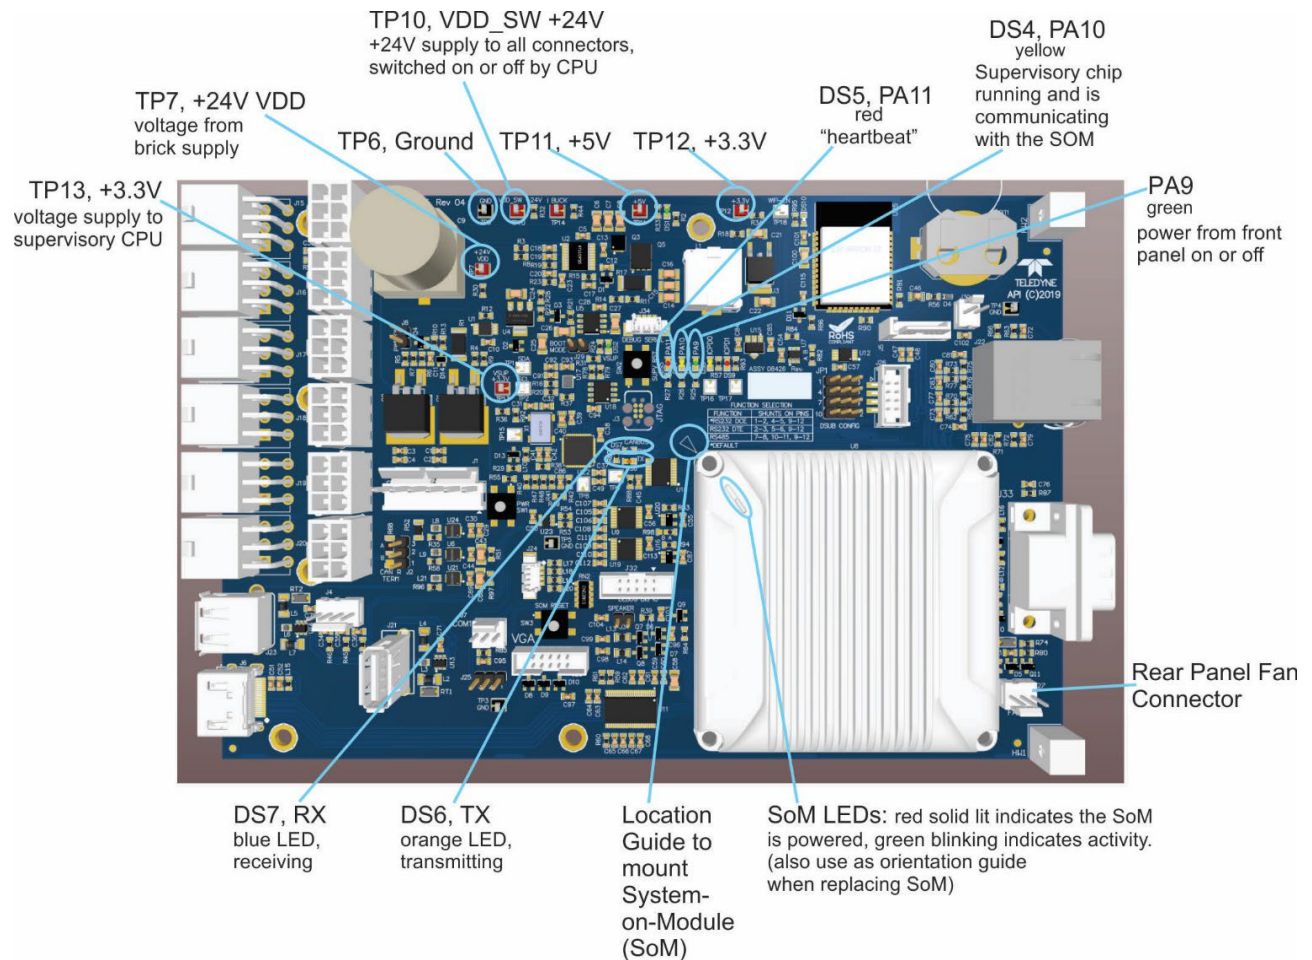
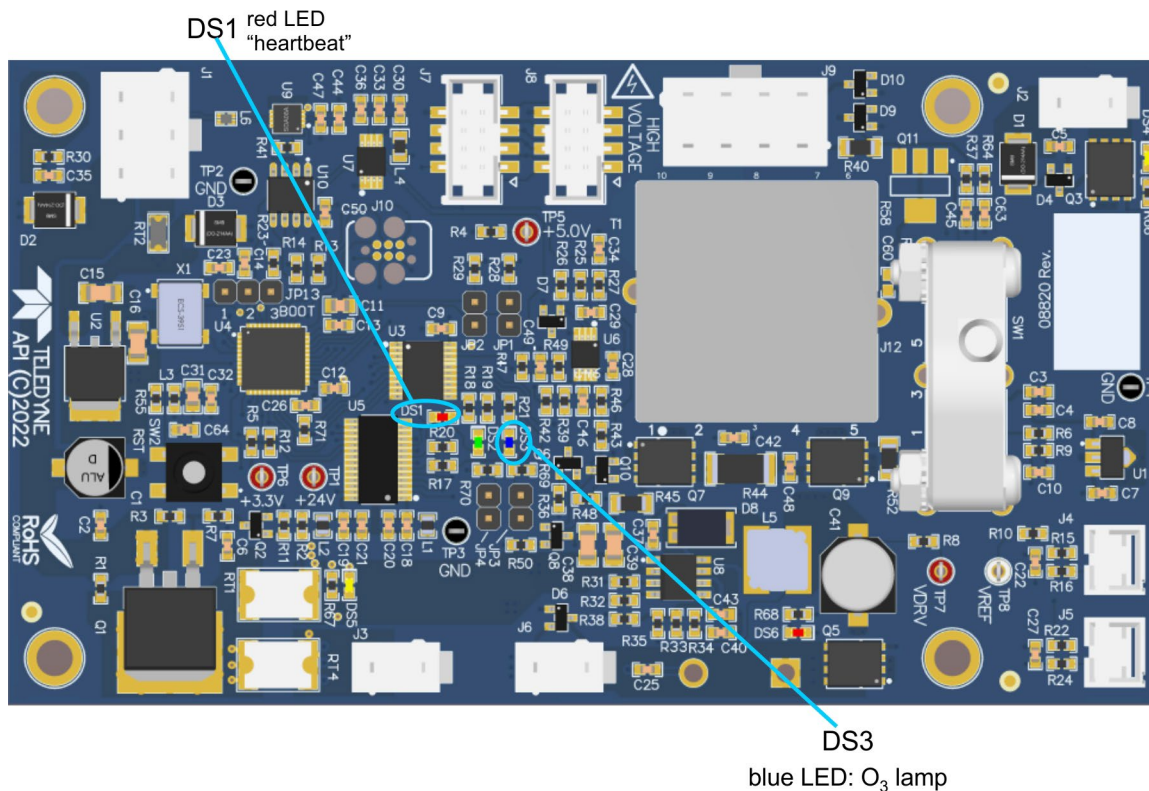
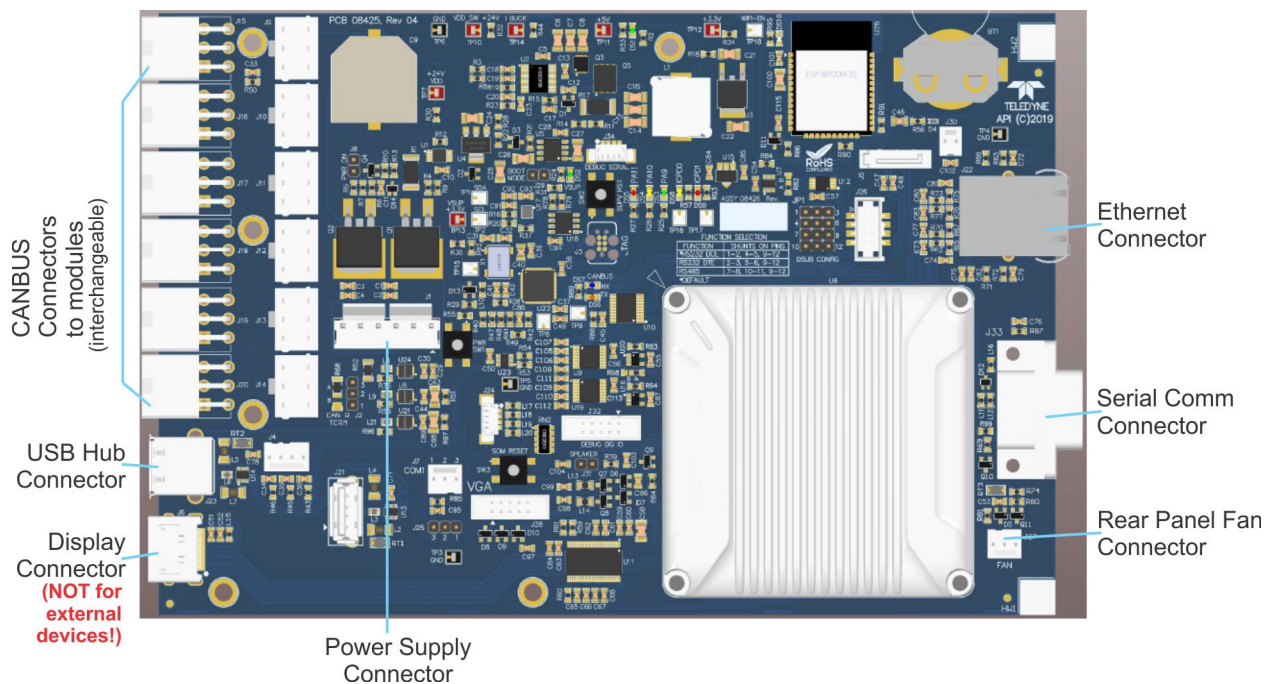

Figure 5-7. Mainboard
Figure 5-8. Ozone Sensor Board LEDs
Figure 5-12. Mainboard Connectors
The following illustrations show connectors and LEDs that can indicate where issues may lie. Figure 5-7 shows the layout for the mainboard; Figure 5-8 shows the layout for the ozone brick module's smartboard.
- Last, check that the cable running from the power supply is properly seated in its connector at J1 on the Mainboard (Figure 5-12), and use a voltmeter to check TP7 on the Mainboard (Figure 5-7).